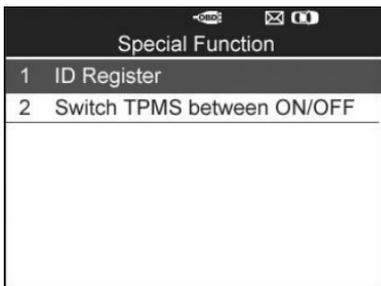

Figure 4-38
- 2) The tool will display a list of available special functions for the vehicle being tested (Figure 4-38).